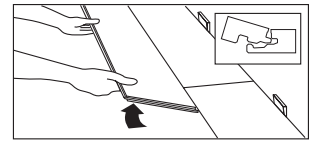

Figure 5
- Install the long end of the first board and lock in place, keep this board at its natural angle slightly raised off the subfloor (Fig. 5). Use a scrap piece of the flooring to support the row if needed.